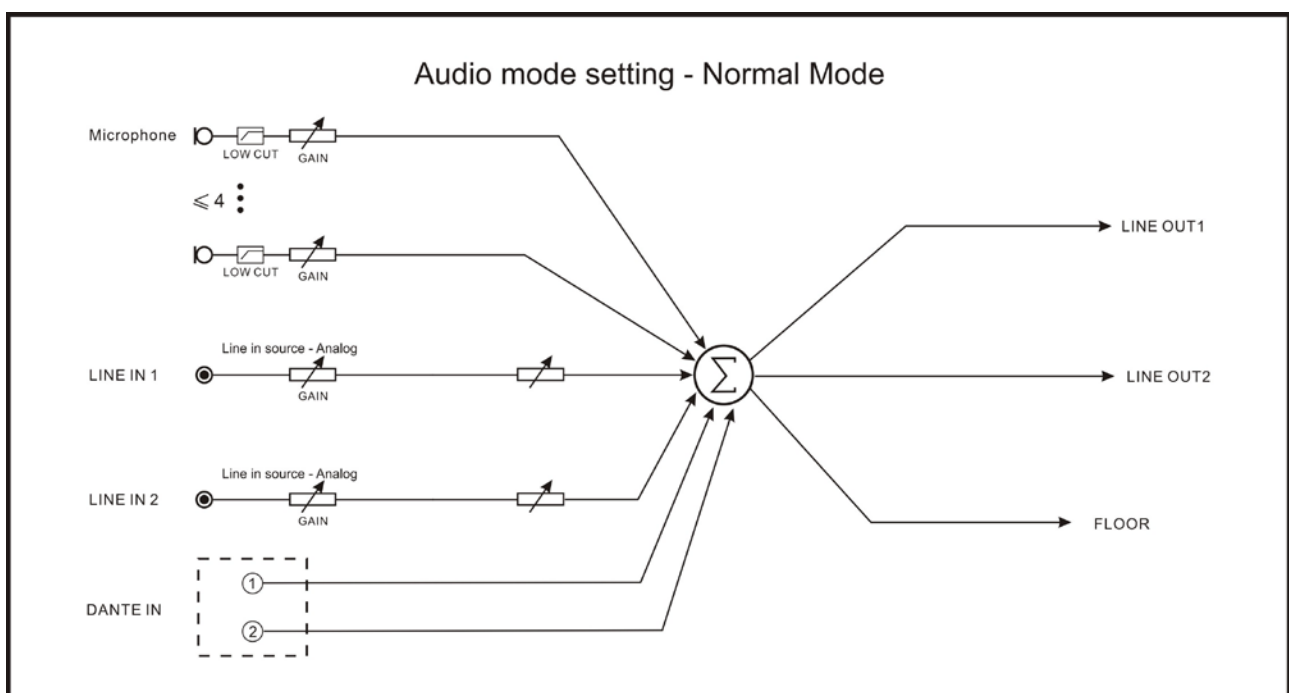

Figure 2.12 Audio mode setting – Normal Mode
- **Normal:** LineOut1/2 and floor audio output feature each the sum signal of Dante In + LineIn1 + LineIn2 + active microphones (figure 2.12);